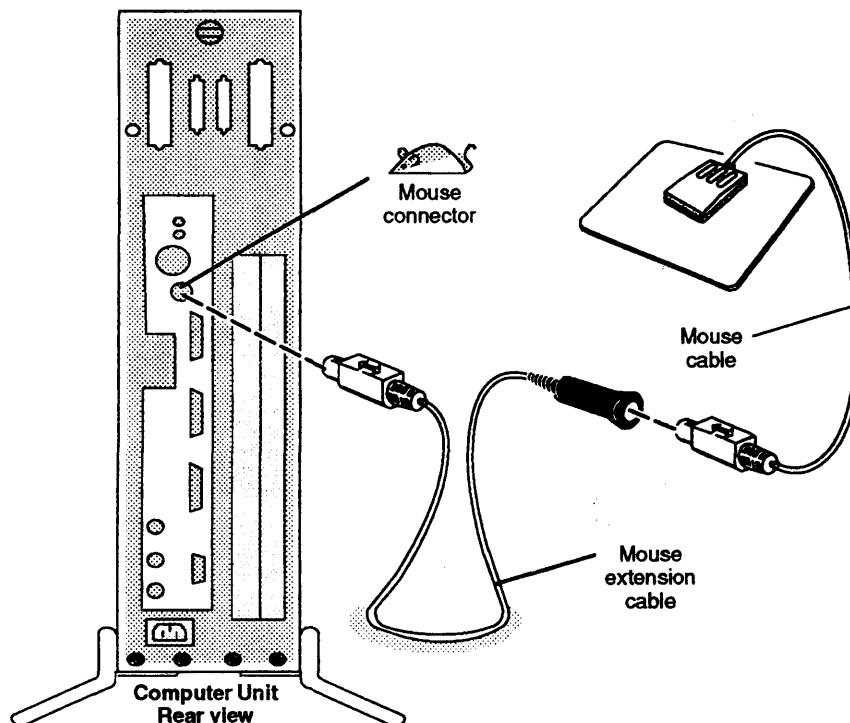

Figure 2-7 Connecting the Mouse
3. Plug the female end of the mouse extension cable into the end of the mouse cable; then, plug the other end of the extended mouse cable into the mouse connector on the rear panel of the computer unit, as shown in Figure 2-7.